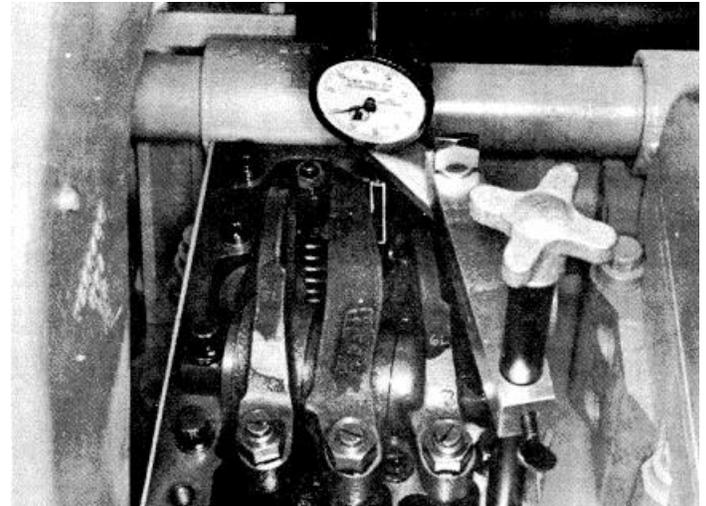

Fig. 2-62, (K21920). Dial indicator in place - extension in contact with plunger
2. Set up 3375007 Indicator Support on the rocker lever housing, of the cylinder selected, with the indicator extension 3375005 on the injector plunger top. Fig. 2-62.